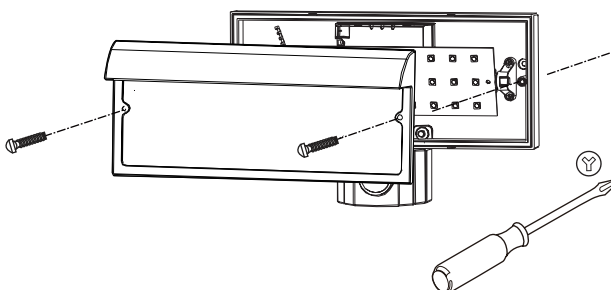

Fig.5
- Step5 Fasten the cover to the lamp base which has been installed on the wall.(Fig.5)